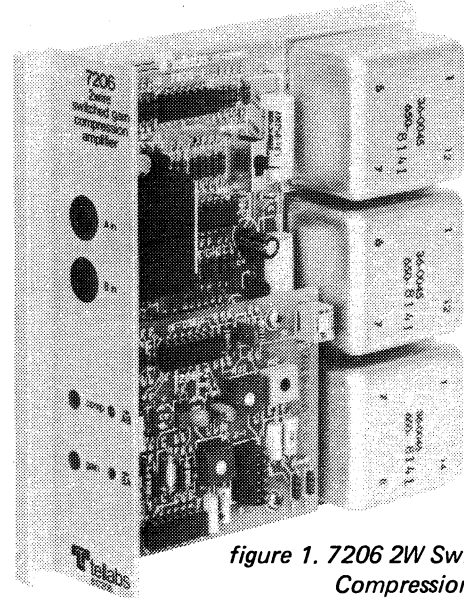

figure 1. 7206 2W Switched Gain Compression Amplifier
1.01 The Tellabs 7206 2Wire Switched Gain Compression Amplifier module (figure 1) provides a 2wire cable facility with continuously adjustable bidirectional gain and automatic gain control. As such, the 7206 is intended for applications where transmission levels vary greatly from call to call, as is typically experienced in extended WATS calling arrangements, key-phone conferencing applications, and private-line tie-trunk networks.